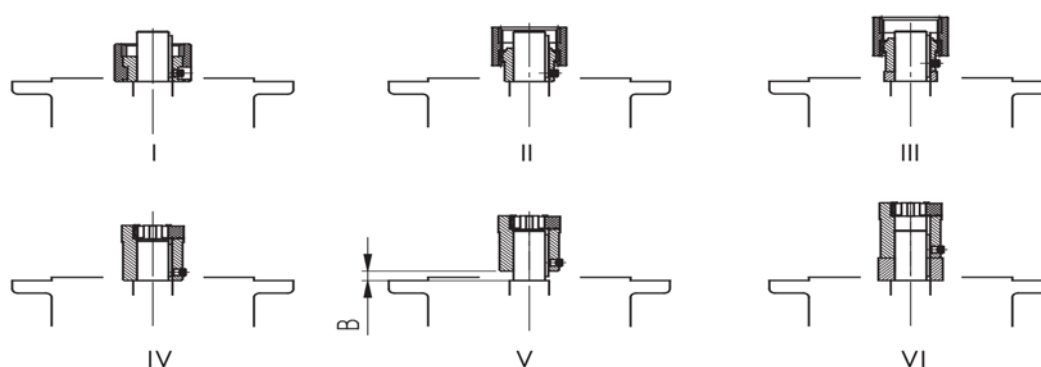

Figure 19: Fitting the coupling onto the motor shaft - various types of coupling
3. Tighten the coupling hub on the motor shaft in accordance with the motor manufacturer's instructions until it touches the collar. With motor sizes 90, 160, 180 and 225, any spacer bushes may need to be positioned between the coupling sleeve and the collar. With standard helical gear units, dimension B between the coupling sleeve and the collar must be observed (see "Figure 19"). Certain **NEMA adapters** require adjustment of the coupling in accordance with the specifications indicated on the adhesive plate.
6. Mount the motor on the adapter. Do not forget to fit the ring gear or the gear sleeve (see figure 19 below).